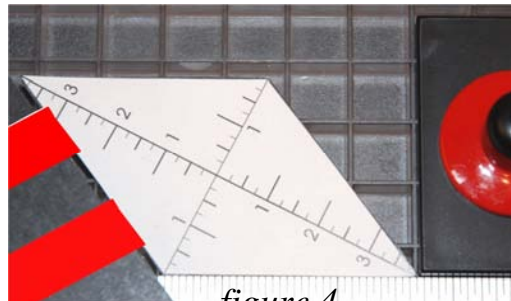

figure 4
4. Now place the cut-out on the cutting surface and align the straight edge to the proper angle. Tighten the tadpole straight-edge holder. Place the glass stop at the end of your paper diamond cut-out and tighten. (figure 4)